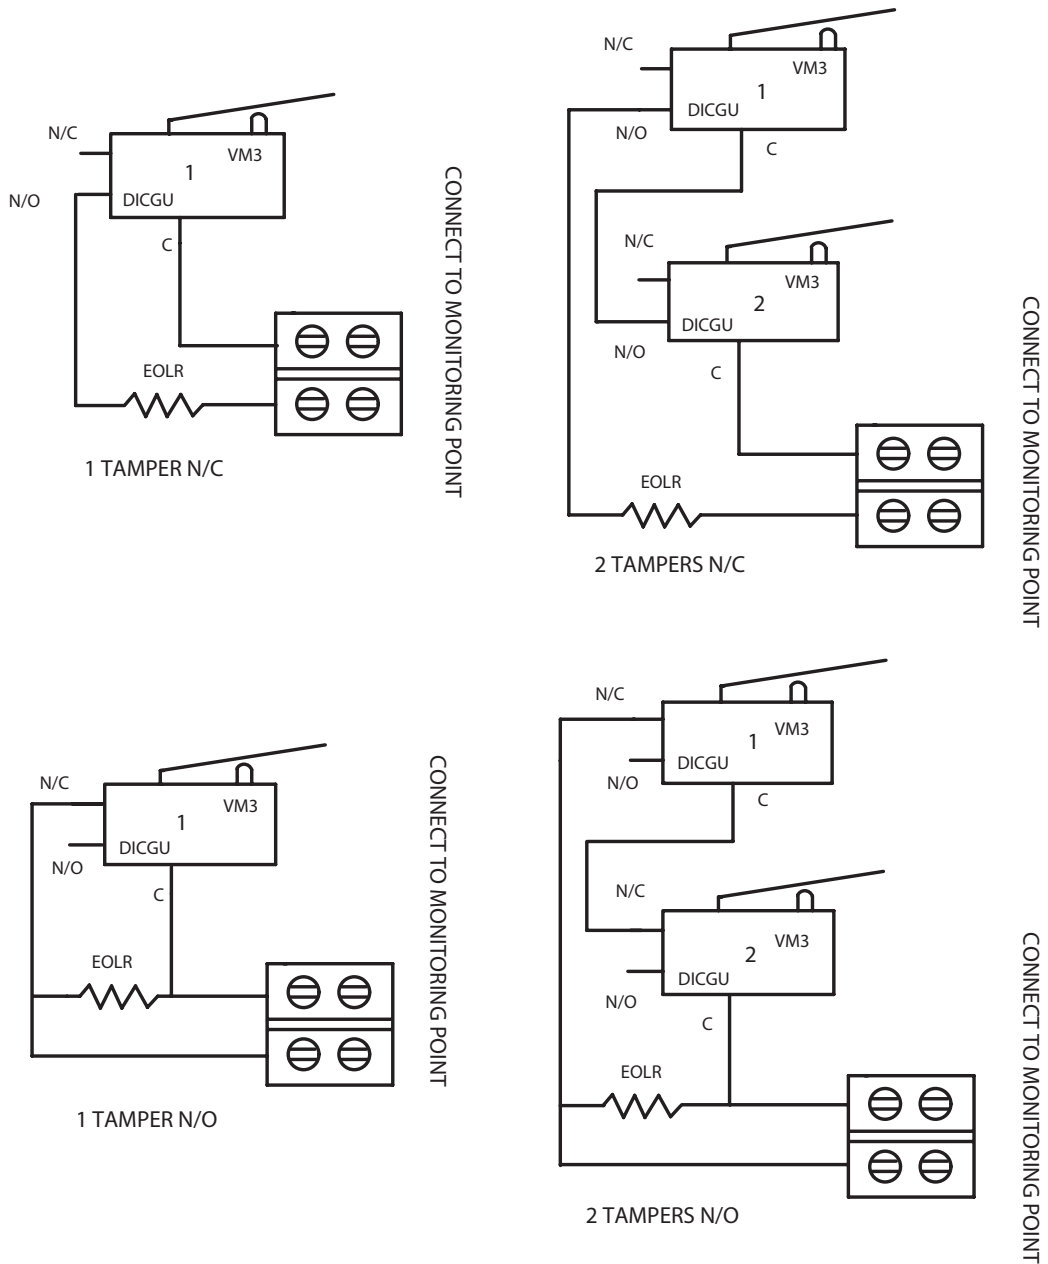

Fig. 3
12. If Tamper Switch is required, use part # TSW1-02 or TWS2-02 (Refer Fig 3).